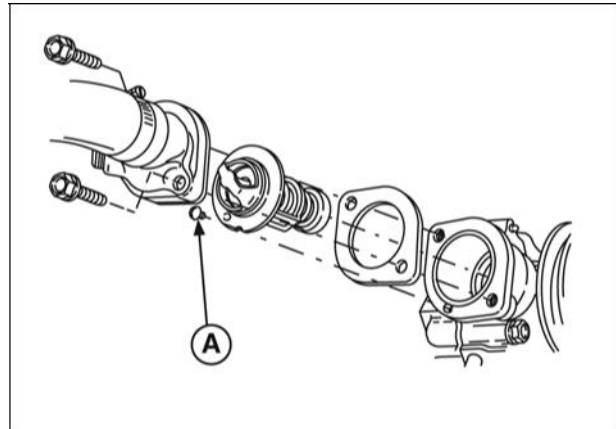

Figure 5
1. Insert thermostat in housing and install locating screw (A, Figure 5).